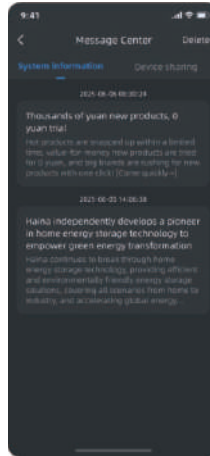

Figure 1
1) Figure 1: Display system or advertising messages, click to view message details.